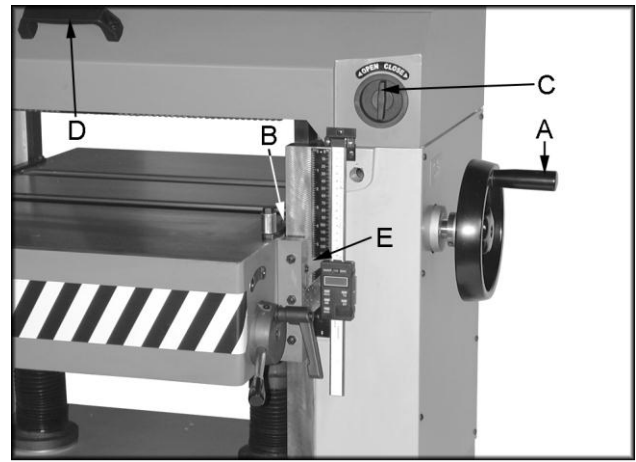

Figure 6
Turn the handwheel (A, Figure 6) clockwise to raise the table. One revolution equals 1/16".
The socket head cap screw (B, Figure 6) acts as a stop and prevents you from running the table into the cutting and feeding assembly.
Turn the locks (C, Figure 6) clockwise to open the hood. The hood will open automatically. Use the handle (D, Figure, 6) to shut the hood.
2. Use the handwheel (A, Figure 6) to raise the table so that the in-feed roller is about 1/16" above the calibrating board.
7. Adjust the pointer (E, Figure 6) so that it reads the measured thickness by loosening the screw that holds it in place.